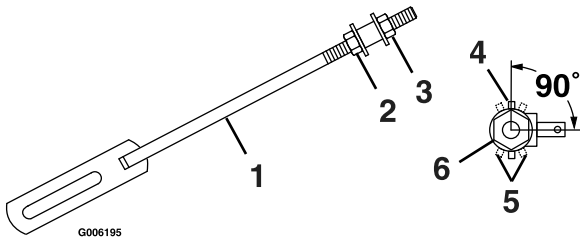

Figure 16
- Loosen the front nut on left hydro control link as shown in Figure 16. Turn the rear control linkage adjusting nut counterclockwise until wheel rotates forward. Turn the rear nut of left control link clockwise 1/4 of a turn at a time, stopping to move the speed control forward and back to neutral, until left wheel stops rotating forward. Turn the nut an additional 1/2 turn and tighten the front jam nut making sure not to put a bind on the linkage. Make sure flat part of linkage is perpendicular to pin part of swivel. See Figure 16.